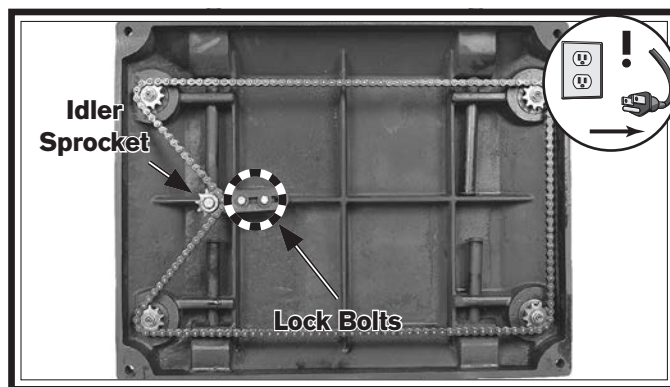

Figure 63. Location of idler sprocket and chain tension lock bolts.
2. Remove motor access panel to access table height chain (see **Figure 63**).
3. Loosen both chain-tension lock bolts (see **Figure 63**), then push idler sprocket against chain with moderate pressure to eliminate slack in chain. While maintaining pressure on idler sprocket, re-tighten lock bolts.